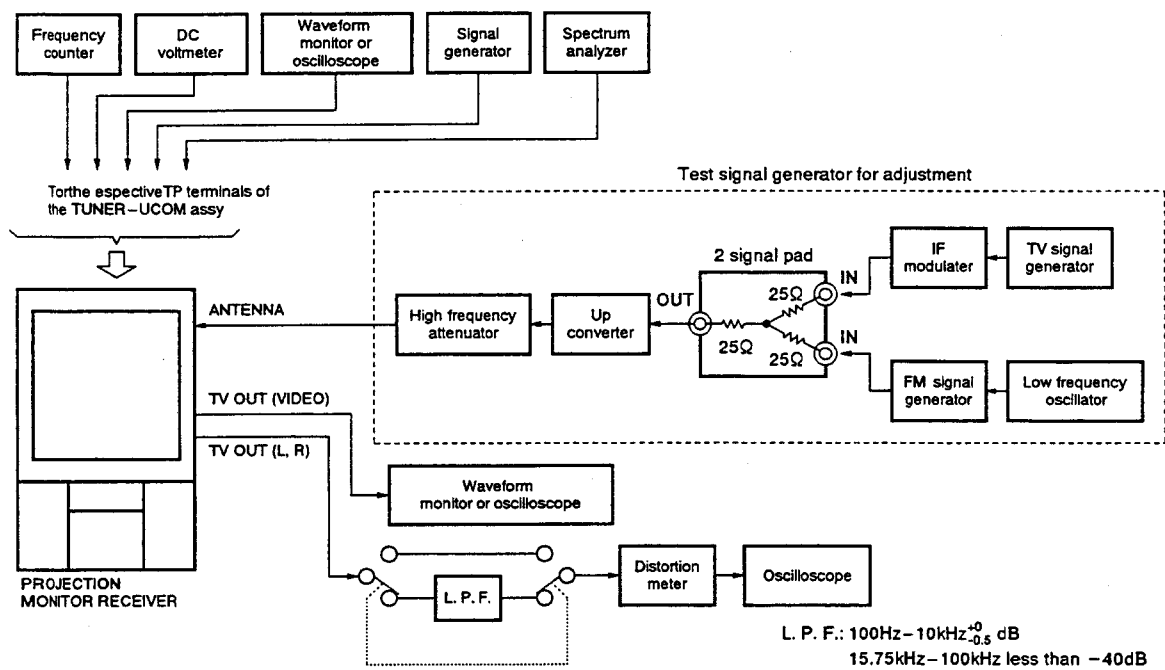

Fig. 8-14 Connection diagram when adjusting the tuner section
- Adjustment test points (TP) are located in the TUNER-UCOM Assy unless otherwise specified.
(1) Tuner Section Adjustment
- For the necessary input signal, see Table 8-1. If not mentioned in the table, supply the signals to the antenna input terminal. Observe Fig. 8-14 when connecting.
- The trap adjustment in step 3 is separately described in another table. See section 8.5.1 (2).